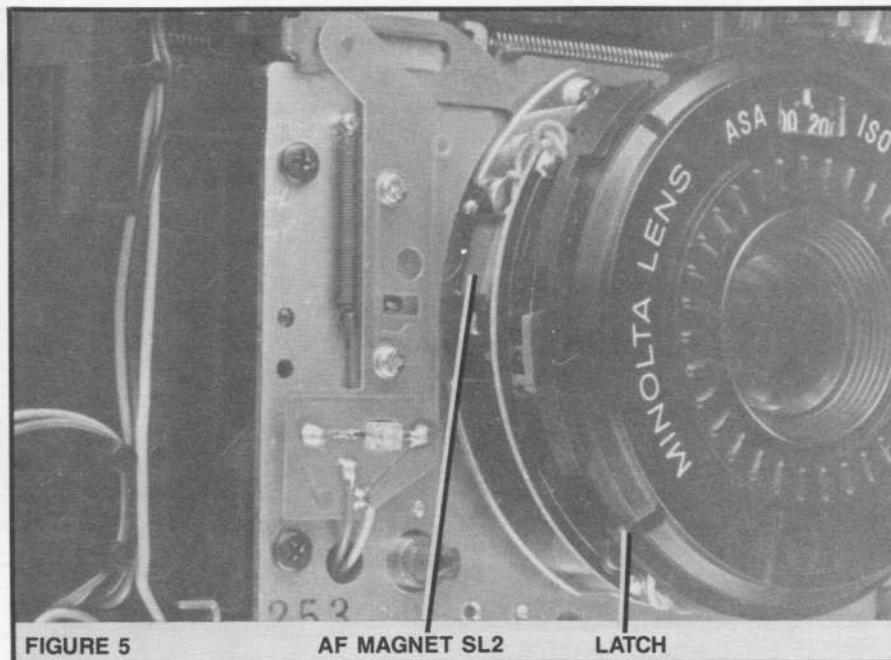

FIGURE 5 AF MAGNET SL2 LATCH
- Fig. 5— side view, lens assembly
Note: the nameplate ring has a bayonet mount. Working through the slot at 7 o'clock, Fig. 5, depress the latch. Then rotate the nameplate ring a partial turn in a counterclockwise direction.